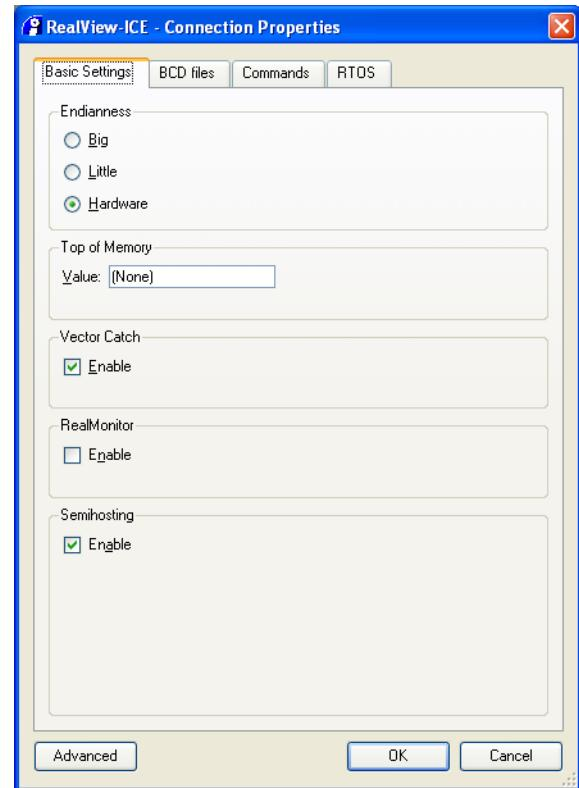

Figure 3-8 Connection Properties dialog box
2. Select **Properties...** from the context menu. The Connection Properties dialog box is displayed. Figure 3-8 shows an example: